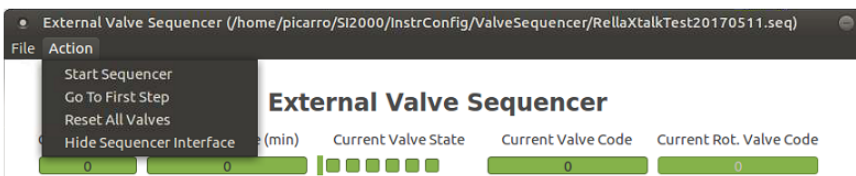

Figure 50: External Valve Sequencer Window Drop-Down Menus
2. On the status bar menu of the analyzer *Data Viewer* screen, select **Show/Hide Valve Sequencer GUI** drop-down (Figure 50).